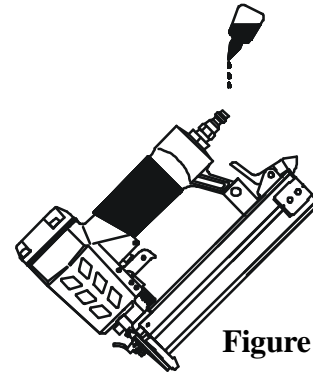

Figure 2
1. Determine if the tool needs oil and, if necessary, place two drops of oil in the AIR PLUG(GJ003) as shown in Figure 2. If you are using an automatic in-line oiler, check and add oil if necessary.